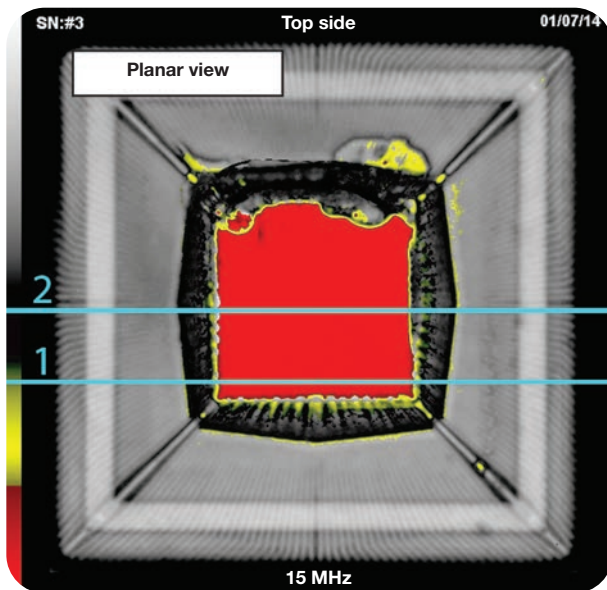

Fig. 2 — Planar acoustic image looking down into a plastic-encapsulated integrated circuit. The two lines indicate the locations for cross-sectioning.
Figure 2 is a planar acoustic image of a plastic-encapsulated integrated circuit (IC). The fine lines radiating in all directions are metal lead frame fingers while the four heavier lines extending to each corner are tie bars. The red center marks the location of the silicon die; red (highest amplitude return echoes) indicates that the die is delaminated from the plastic encapsulation above it. The pale gray square near the outer ends of the lead fingers is tape that holds the lead fingers in place during IC package manufacturing. To learn more about the delamination, and perhaps to determine its cause, cross-sectional images were made along a line intersecting the die near its lower edge, and along a line at the center of the die.